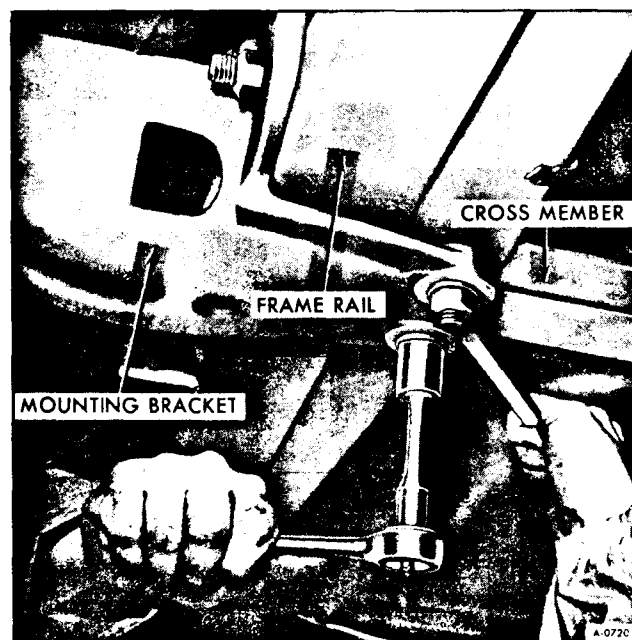

Figure 16—Removing Mounting Bracket Retaining Bolts
10. Support mounting bracket with floor jack. Referring to Figure 16, remove two bolts holding mounting bracket to crossmember. Remove four bolts holding mounting bracket to frame rail.